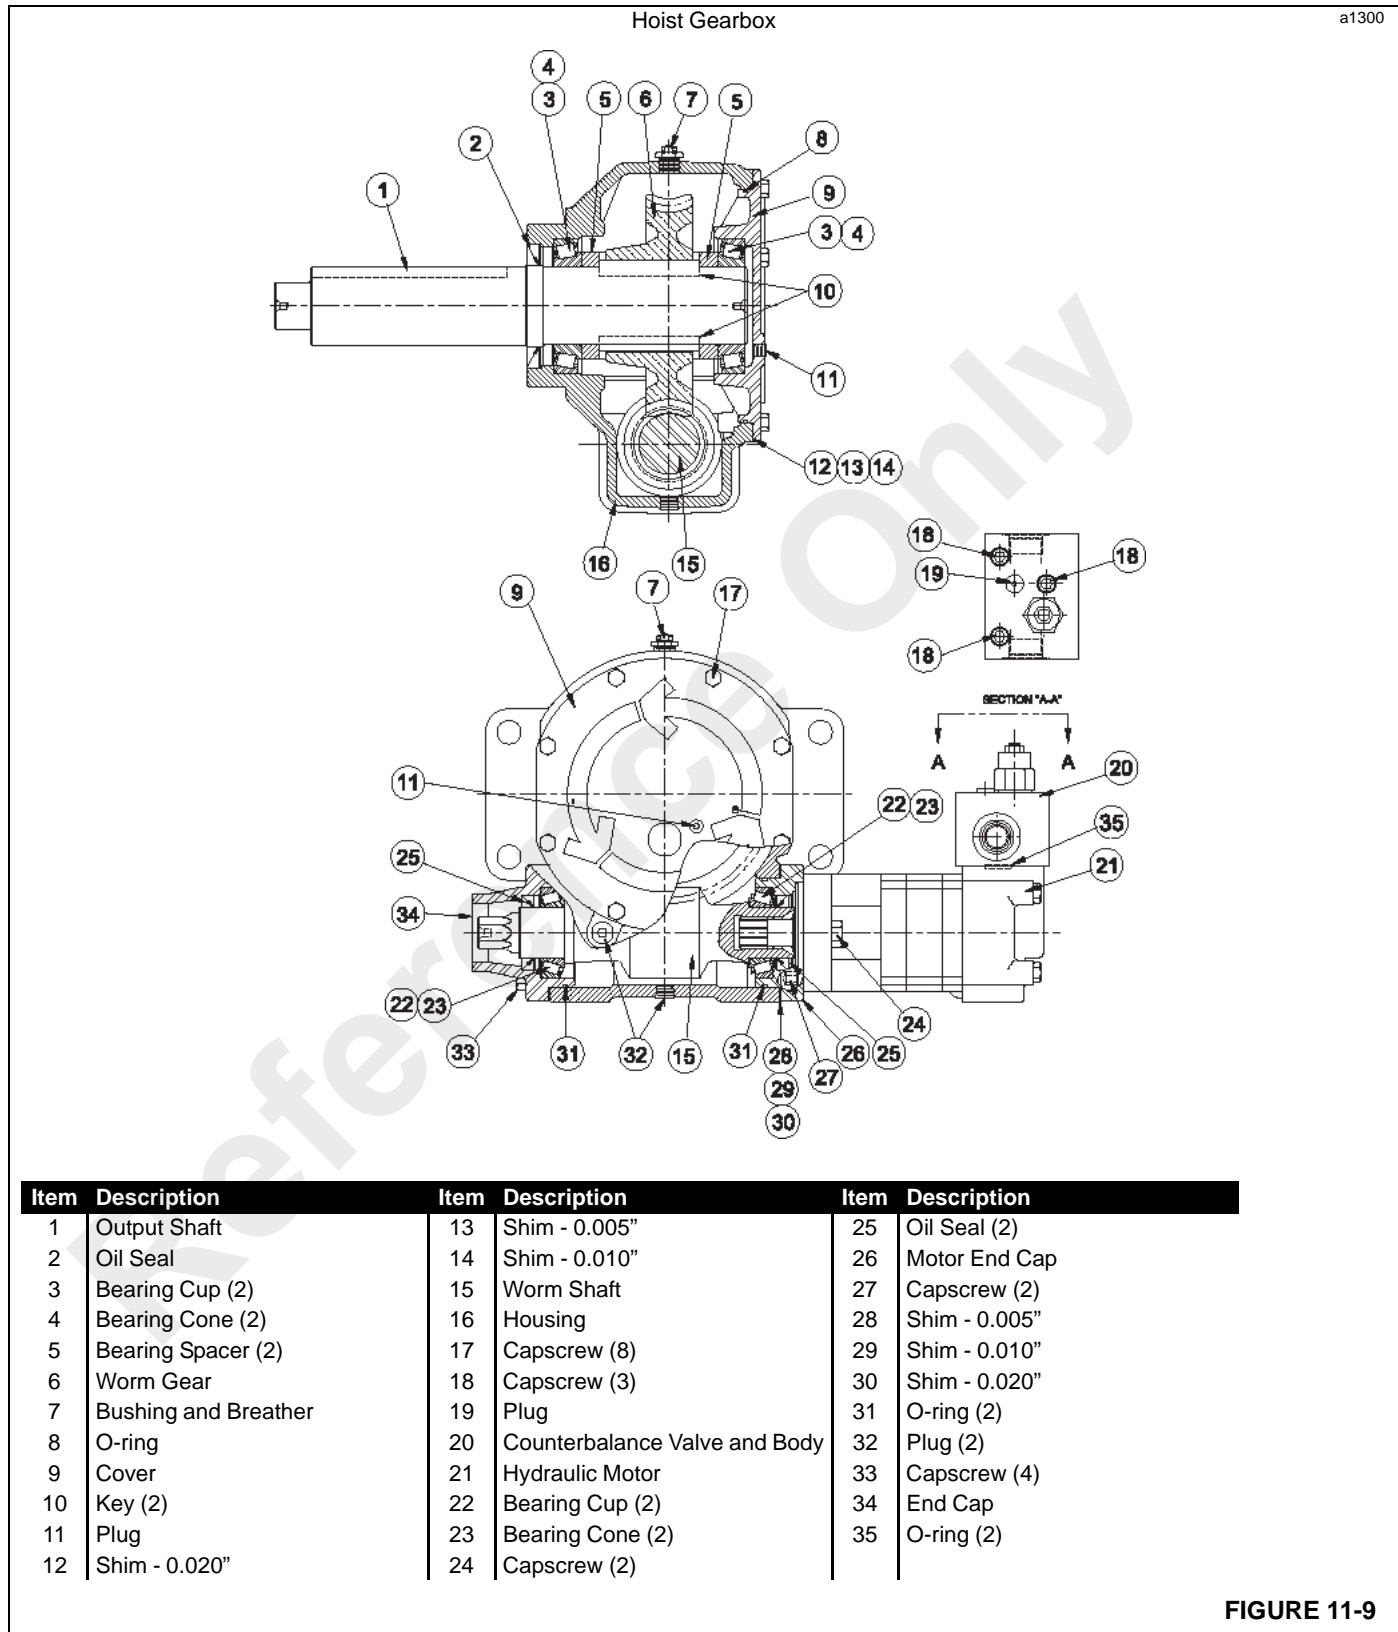

FIGURE 11-9
1. Remove the hoist motor (21, Figure 11-9) and counterbalance valve and block from the gearbox.
3. Remove the eight capscrews (17) and remove cover (9) and O-ring (8). Discard O-ring (8).
5. If necessary, using a suitable puller, remove bearing cup (3) from cover (9).
6. Remove four capscrews (33) and remove cap (34) and O-ring (31). Remove and discard the O-ring.
7. Remove oil seal (25) from end cap (34).
8. If necessary, using a suitable puller, remove bearing cup (22) from end cap (34).
9. Pull worm gear (6) and shaft (1) from housing (16). Bearing cones (4) will pull out with the worm gear and shaft.
10. Remove oil seal (2) from housing (16).
11. Using a suitable puller, remove bearing cones (4) from shaft (1). Remove spacers (5).
Remove breather (7, Figure 11-9) and clean it in a suitable solvent. Clean all other parts. Make a careful inspection of all parts, including gears and bearings.
- If removed, press new bearing cups (3, Figure 11-9) into housing (16) and cover (9).
- If removed, press bearing cups (22) into end cap (34) and motor end cap (26).
- Press worm gear (6) and keys (10) onto shaft (1).
- Pack bearing cones (4) with grease.
- Install spacers (5) and bearing cones (4) onto shaft (1).
- Install worm gear and shaft into housing (16).
- Install bearing cones (23) onto worm shaft (15).
- Lubricate with grease oil seals (25) and O-rings (31) and install into end cap (34) and motor end cap (26).
- Place worm shaft (15) inside of housing (16).
- Install end cap (34) Attach using four capscrews (33) and tighten to a torque of 78 Nm (57 lb-ft).
- Install motor end cap (26) and shims (28, 29 and 30). Install proper shims to achieve a -0.025 to $+0.05$ mm (-0.001 to $+0.002$ in) worm movement axially. Attach motor cap (26) using two socket head capscrews (27). Tighten to a torque of 78 Nm (57 lb-ft).
2. Attach the main hoist assembly to the boom with four capscrews (5), flat washers (12), lockwashers (4) and hex nuts (3). Tighten the hardware to a torque of 153 Nm (113 lb-ft).
4. With the boom at the horizontal position, remove the breather (7, Figure 11-9) and check plug (11). Fill the gearbox with SAE 140 EP gear lube through the breather hole to the bottom of the fill check plug hole. Install both the breather and fill check plug.